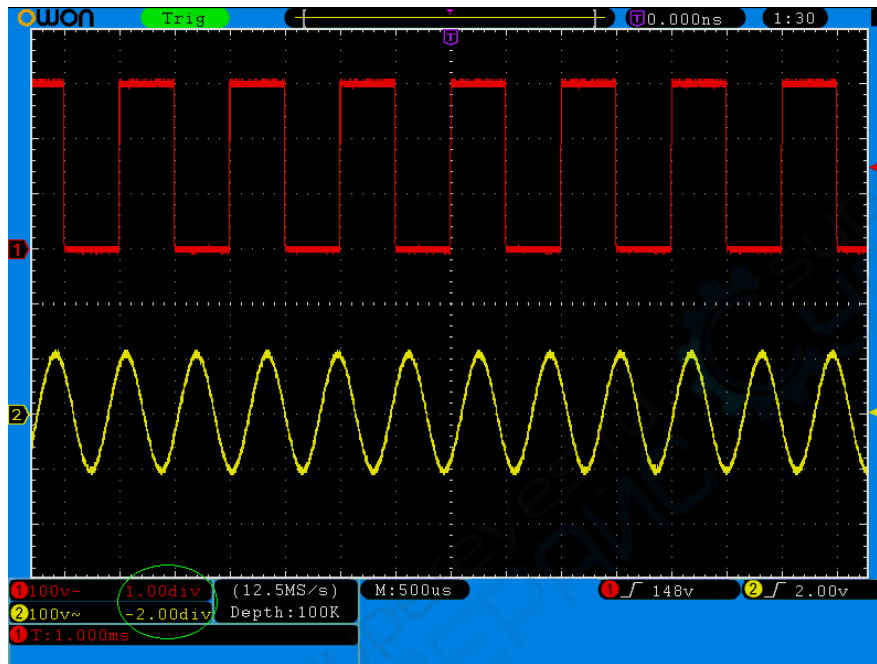

Figure 5-11 Information about Vertical Position
3. When the vertical position of the channel waveform is adjusted, the changed value is displayed at the left bottom corner of the screen (see *Figure 5-11*).